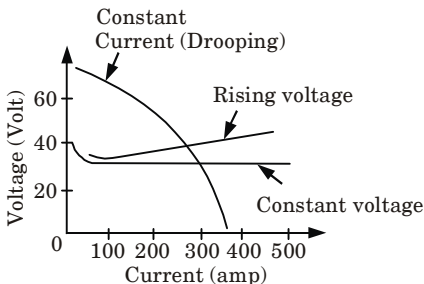

Fig. 1.18.2. Characteristics of DC welding machines.
2. In drooping characteristics as the arc length increases, arc voltage rises and the current decreases and vice versa, as shown in Fig. 1.18.2. Machine with drooping characteristics is used for standard shielded arc manual welding.